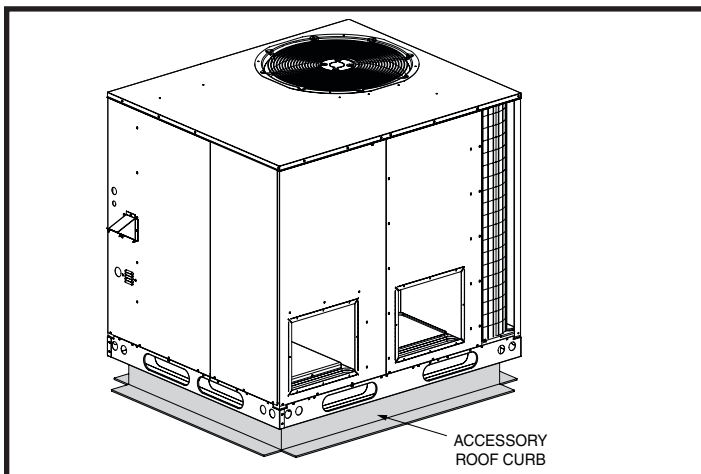

Figure 4. Roof Top Installation
- The appropriate accessory roof curb must be installed prior to unit installation. The roof curb must be square and level to ensure proper condensate drainage. See Figure 4 \(page 10\). **Please follow all instructions provided with the kit.**